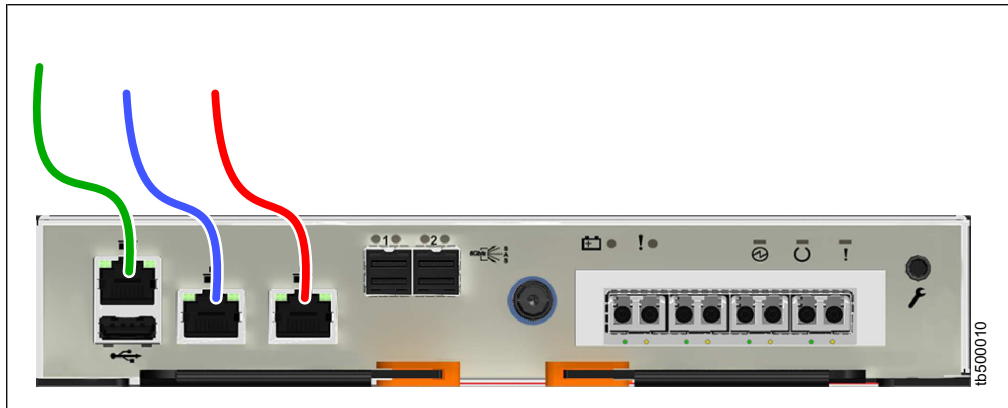

Figure 24. Connecting the Ethernet cables to a Storwize V5030 system
- a. Identify the location and function of the Ethernet ports on your system; refer to Figure 24 on page 32.
- The technician port should only be used to initialize or service the system. In Figure 24 on page 32, the technician port is identified by the green cable.
- b. Connect Ethernet port 1 of each Storwize V5030 node canister in the system to the IP network that will provide a connection to the system management interfaces. Figure 24 shows the port locations and Ethernet cabling on a Storwize V5030 node canister.
- c. Optionally, connect Ethernet port 2 of each node canister in the system to a second IP network, as shown by the red cable connection in Figure 24. Port 2 can provide a redundant connection to the system management interfaces. Port 2 can also be used for iSCSI connectivity to the system by hosts on the network. If more than one control enclosure is present in the system, ensure that port 2 of every node canister is connected to the same network to provide access if the configuration node fails.